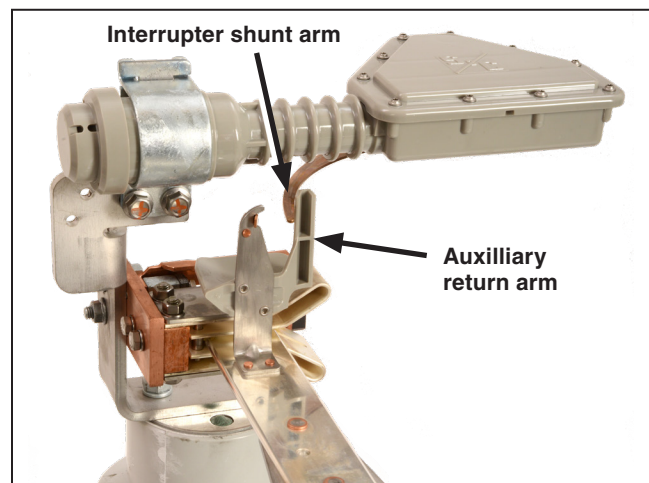

Figure 36. The interrupter shunt arm should be resting against or no more than  $\frac{1}{8}$ -inch (3.2 mm) away from the auxiliary return arm.
- When the switch is fully closed, the interrupter shunt arms are resting against or are no more than  $\frac{1}{8}$ -inch (3 mm) away from the auxiliary return arm of the multipurpose operating cam. See Figure 36.